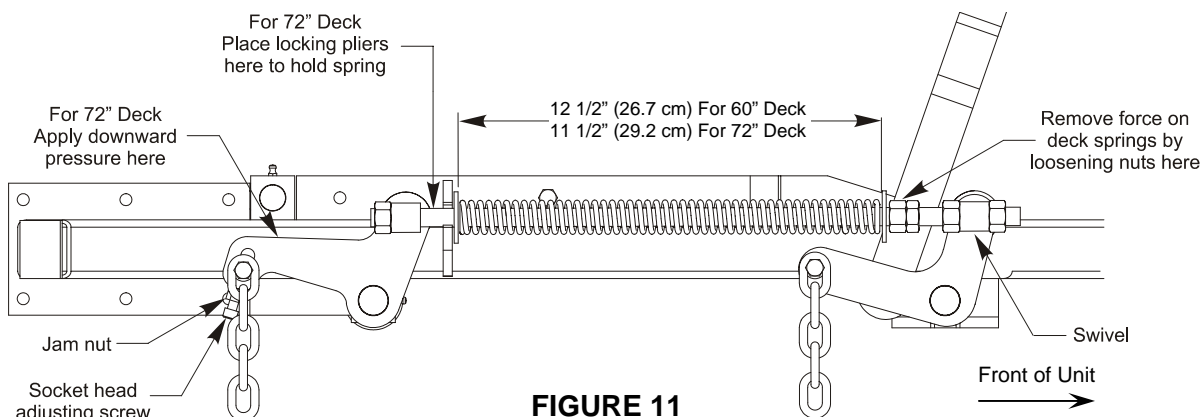

FIGURE 11
- e) Raise the deck to the 5" (12.7 cm) height position (also transport position) and take all force off of the two large deck lift springs by loosening the nuts at the front of each spring. See Figure 11.
For 72" units - Lower the deck to the 1-1/2" (3.81 cm) height position. Force the left rear deck support arm downward about 1/4" (6.4 mm) to get the deck to rest at the 1-1/2" height position. Place locking pliers between the rear swivel and spring stop to hold the deck in this position. See Figure 11.
- l) Raise deck lift lever to the 5" (12.7 cm) cutting height position See Figure 9. Adjust spring compression until proper distance is obtained between the two large washers (See Figure 11). Adjustment is made by turning the nut at the front of each spring (clockwise will shorten the spring, counter-clockwise will lengthen the spring). Lock in position with jam nuts.